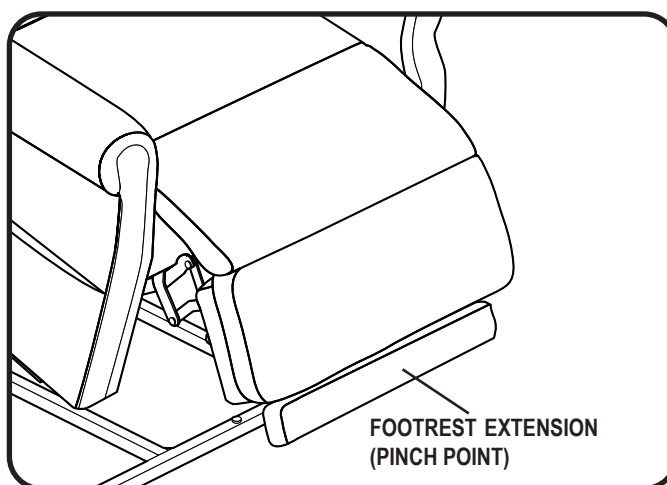

Figure 3.2 Footrest Extension
Footrest Extension: Provides 8 cm (2 in.) of extension to the footrest, increasing the leg support for taller individuals when the recliner is in the recline position (Fig. 3.2). This feature is optional for certain power lift recliner models.
2. Adjust the leg levelers to stabilise the power lift recliner (**Fig. 3.2**).